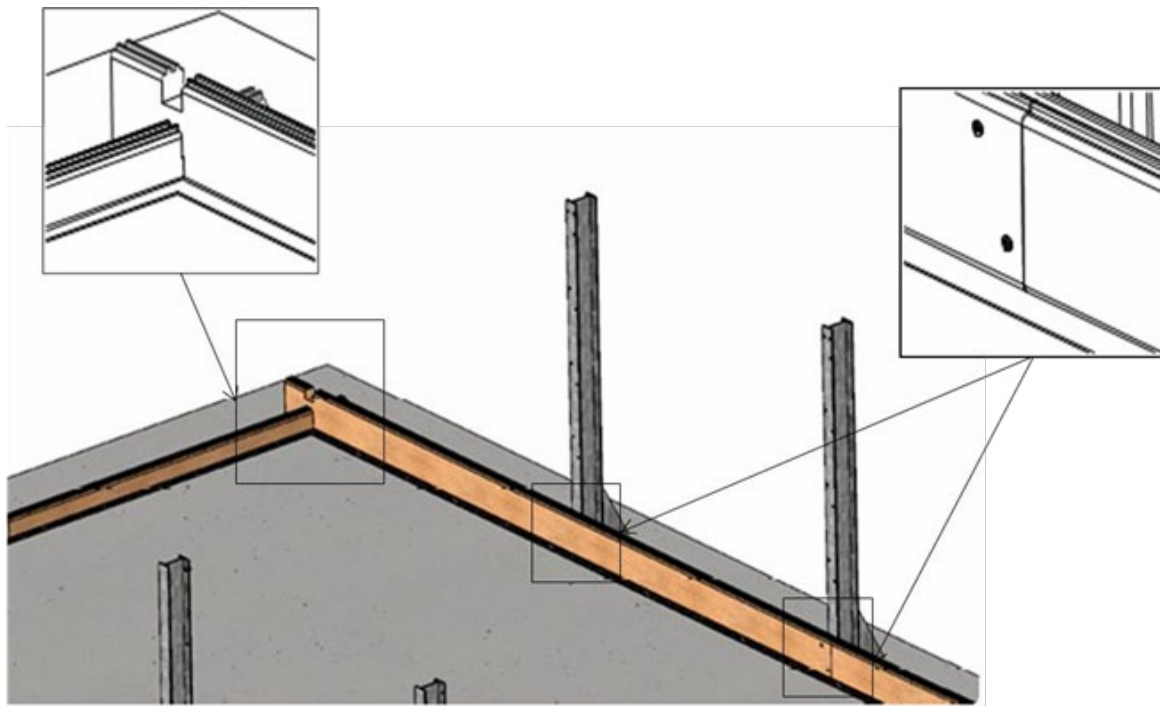

Figure 10 – Screwing the slats together
- screw them together as shown in *Figure 10* using 2 screws per slat pair, and on both sides, each comprising 10 slats rows of slats, that is a total of 80 countersunk 5 x 40 A4 SS torx screws threaded over 25 mm (bag C) .